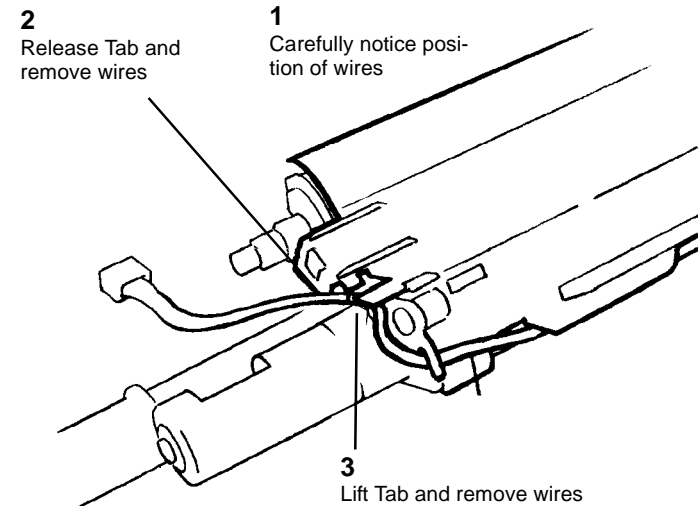

Figure 1 Removing Harness from Clips
12. Release Harness from Harness Clips (Figure 1).